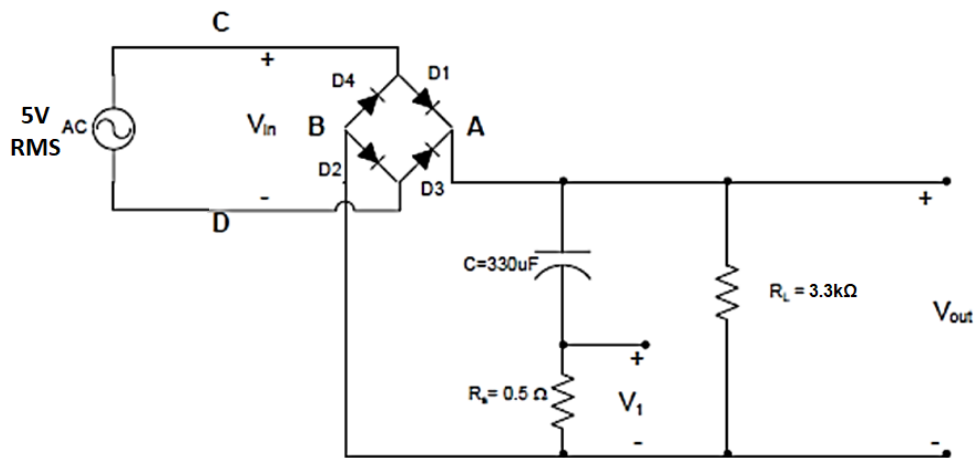

Figure 4-7 Filtered Full Wave Bridge Rectifier Circuit with Current Sensing Resistor
1. Obtain precise values of output filter components for use in post-lab calculations. Refer to Figure. 4-7.
2. Construct the full-wave bridge rectifier shown in Fig.4-7. Use 1N400X (e.g. 1N4002/1N4006) series diodes. (The last digit (X) indicates the diode’s PIV rating. Find and review the data sheet for the selected diode to confirm that its PIV rating is adequate for this experiment.)
- a. Replace D_2 and C to return the circuit to the configuration of Figure 4-7.